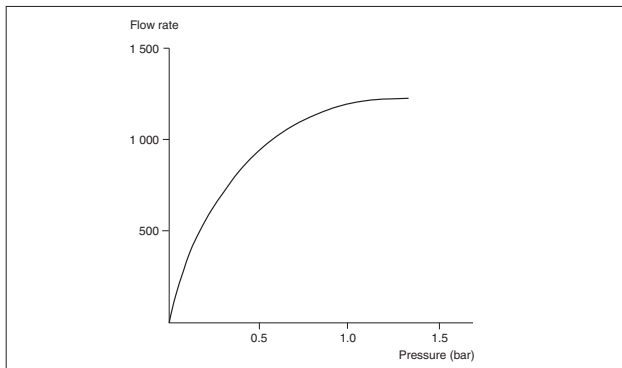

Fig. 2. Pressure /flow rate curve for nProtein A Sepharose 4 Fast Flow media (BPG™ 100; 1 bar; 5.1 cm bed height).
The base matrix, Sepharose 4 Fast Flow, is a highly cross-linked, 4 % agarose derivative with excellent kinetics, making it ideal for process scale applications. Purified protein A is coupled to Sepharose 4 Fast Flow by the well established CNBr method resulting in a very stable medium with very low leakage of protein A. Pressure/flow rate curves are shown in Fig. 2.
nProtein A Sepharose 4 Fast Flow is easy to pack since its rigidity allows the use of high flow rates, see Fig. 2. Four suitable types of packing methods are given:
6. Plot the pressure/flow rate curve as in Fig. 2 and determine the optimal packing flow rate.